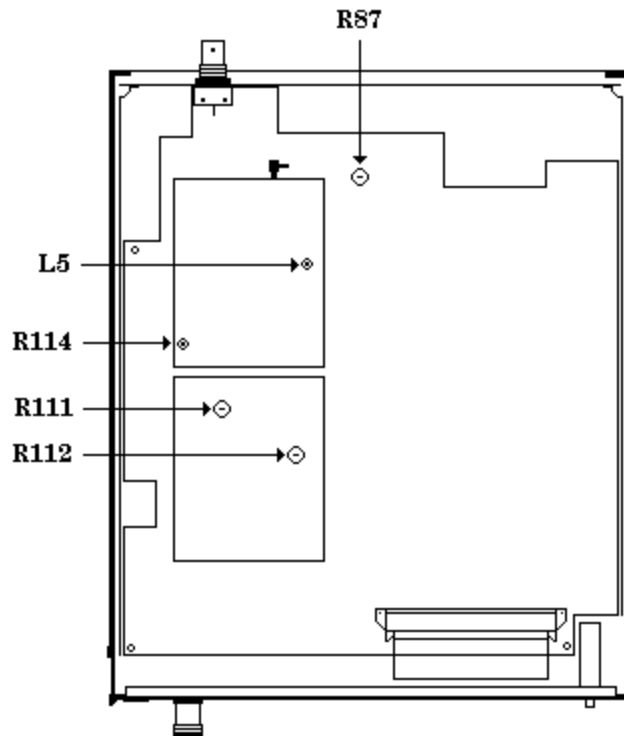

Figure 1. Adjustment locations - test instrument bottom view.
(4) Press **FUNCTION ZERO** key and wait approximately 15 seconds for **ZEROING: \*\*\*\*\*** display to disappear.
(5) Set range calibrator **FUNCTION CALIBRATE/STANDBY** switch to **CALIBRATE**.
(6) Press **FUNCTION SHIFT** key then **FUNCTION CAL/ZERO** key.
(7) Press **DATA ENTRY**  $\bar{Y}$ ,  $\beta$ ,  $\bar{U}$ ,  $\bar{P}$  keys until **REF CF 100.0%** is displayed.
(8) Press **DATA ENTRY ENTER** key. TI will display **CAL \*\*\*\*\*** for a few seconds.
(9) Press **FUNCTION SHIFT** key then **FUNCTION CAL FAC/FREQ** key.
(10) Press **DATA ENTRY**  $\bar{Y}$ ,  $\beta$ ,  $\bar{U}$ ,  $\bar{P}$  keys until **CALFAC 100.0%** is displayed.
- (11) Press **DATA ENTRY ENTER** key.
- (12) Adjust R87 (fig. 1) for a maximum TI indication (R).
- (13) Set range calibrator **RANGE** switch to **10 mW**.
- (14) Adjust R111 (fig. 1) for a TI indication between 9.99 and 10.01 mW (R).
- (15) Set range calibrator **RANGE** switch to **100 mW**.
- (16) Adjust R112 (fig. 1) for a TI indication between 99.9 and 100.1 mW (R).
- (17) Repeat (13) through (16) above until no further adjustments are required.
(1) Adjust L5 (fig. 1) for a frequency counter indication between 49.5 and 50.5 MHz (R).
- (1) Adjust R114 (fig. 1) slightly and repeat **11a** above until calculated power reference oscillator output level is between 0.988 and 1.012 mW (R).